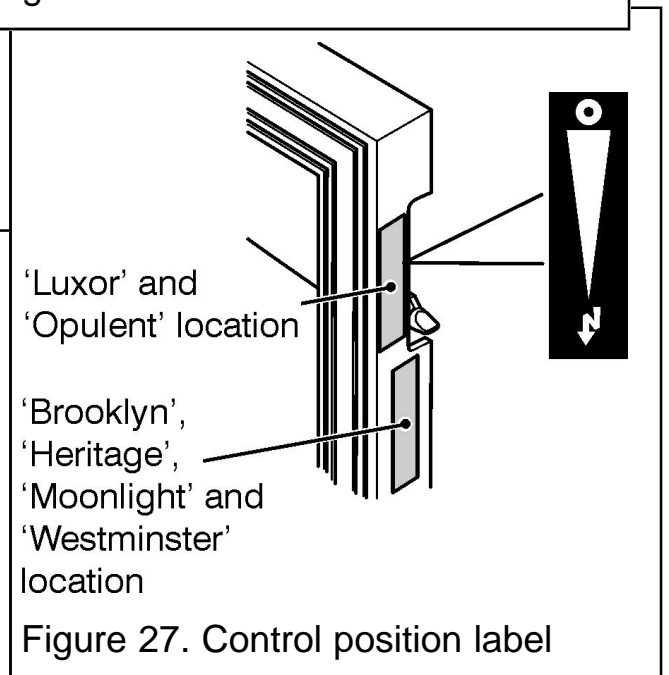

Figure 27. Control position label
from the label and place as in figure 27.
3. Supplied with the fire is a self adhesive control position label. Peel the backing from the label and place as in figure 27.